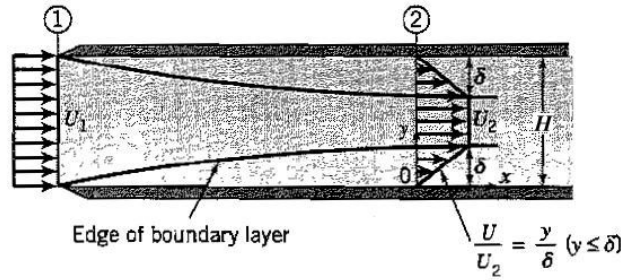

Figure P3.41
3.41 The entrance region of a parallel, rectangular duct flow is shown in Figure P3.41. The duct has a width W and a height H , where $W \gg H$. The fluid density ρ is constant, and the flow is steady. The velocity variation in the boundary layer of thickness δ at station 2 is assumed to be linear, and the pressure at any cross-section is uniform.